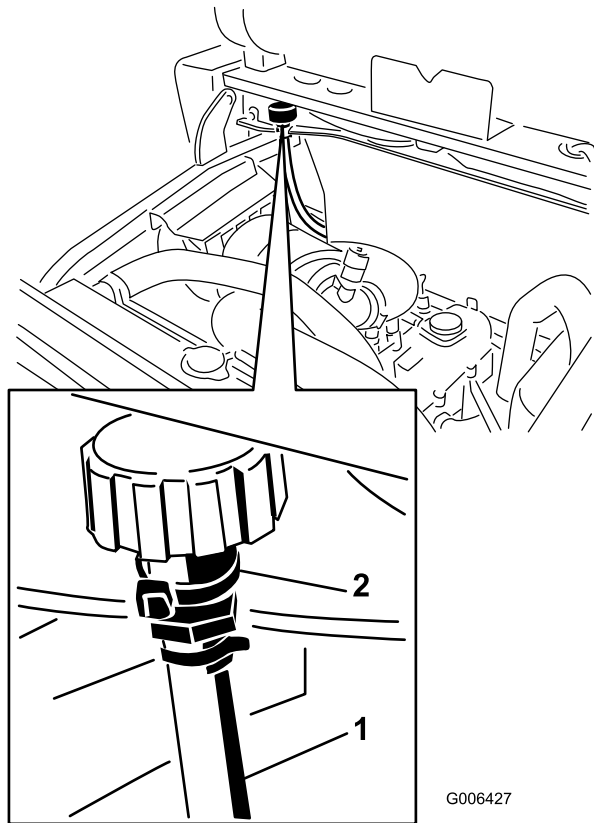

Figure 7
2. Remove the cable tie securing the top of vent hose to the frame (Figure 7).